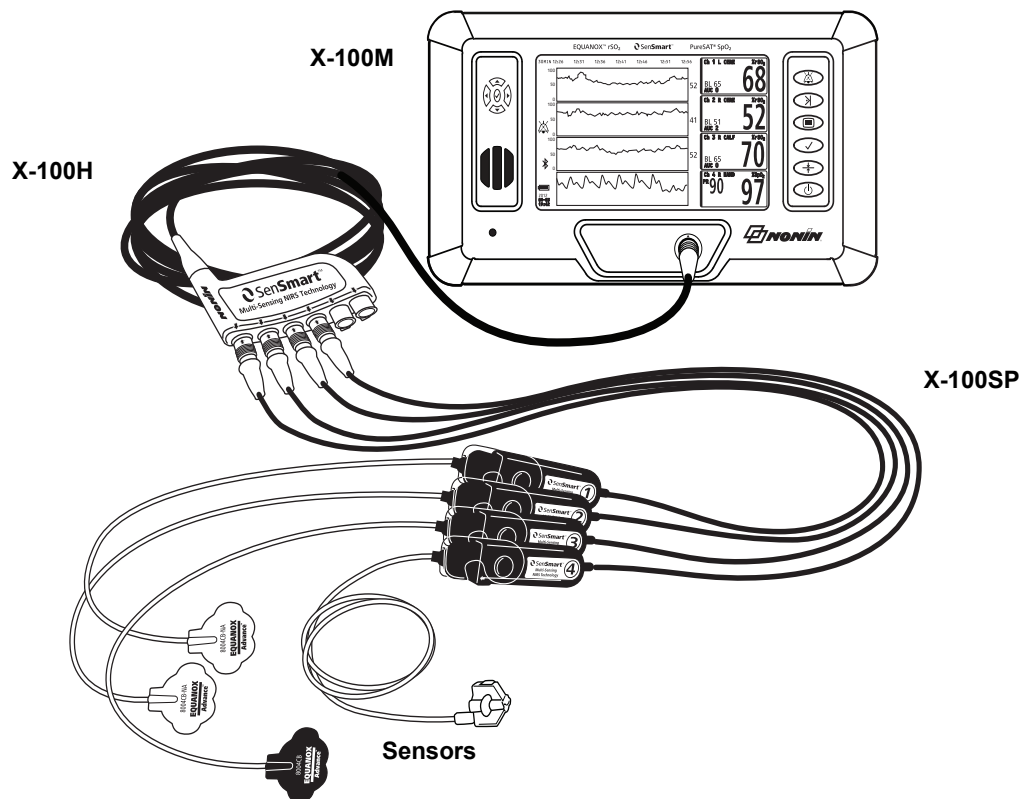

Figure 3. System Set Up (≤40 kg Sensors, 4 Channels Connected)
- The example in figure 3 shows a system set up using regional sensors for patients weighing ≤ 40 kg. These sensors (8004CB, 8004CB-NA) connect directly to the X-100SP signal processor. The 8100S(X) pulse oximetry sensor connects directly to the signal processor.